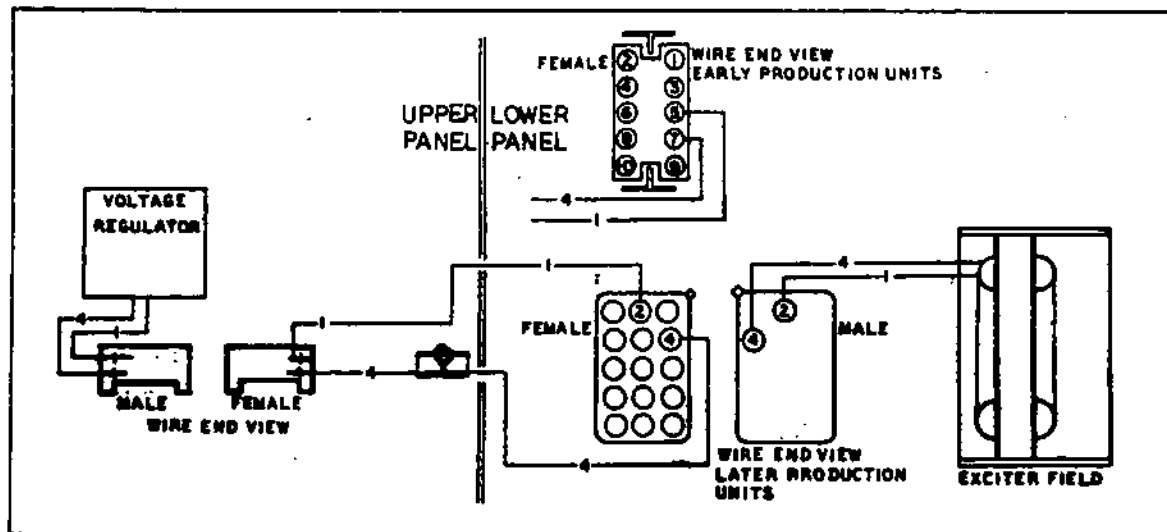

Figure 6.2-A. Exciter Field Circuit
6.2.5- CHECK EXCITER FIELD (Figure 6.2-A)
6.2.6- CHECK DIODES (Figure 6.2-B)